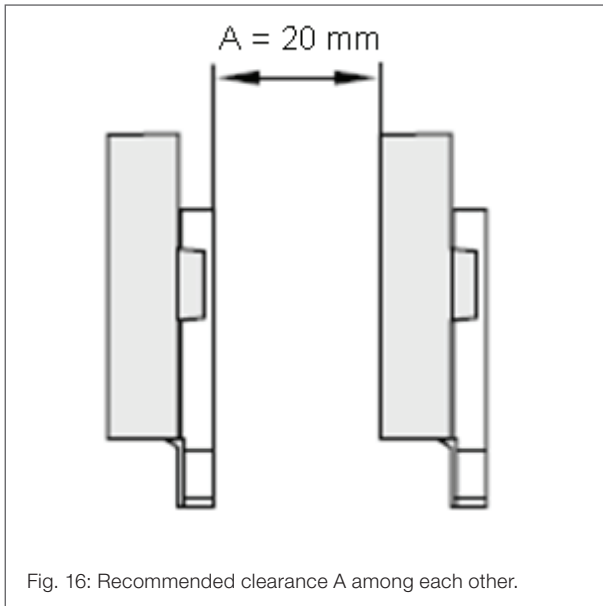

Fig. 16: Recommended clearance A among each other.
- For multiple sensor arrangements, it is recommended to place the sensors including their current feeds with a clearance (A) of at least 20 mm to each other as shown in Fig. 16. A smaller distance may cause cross talk to adjacent sensors. The primary current feeds in the PCB may not to be routed underneath a sensor.